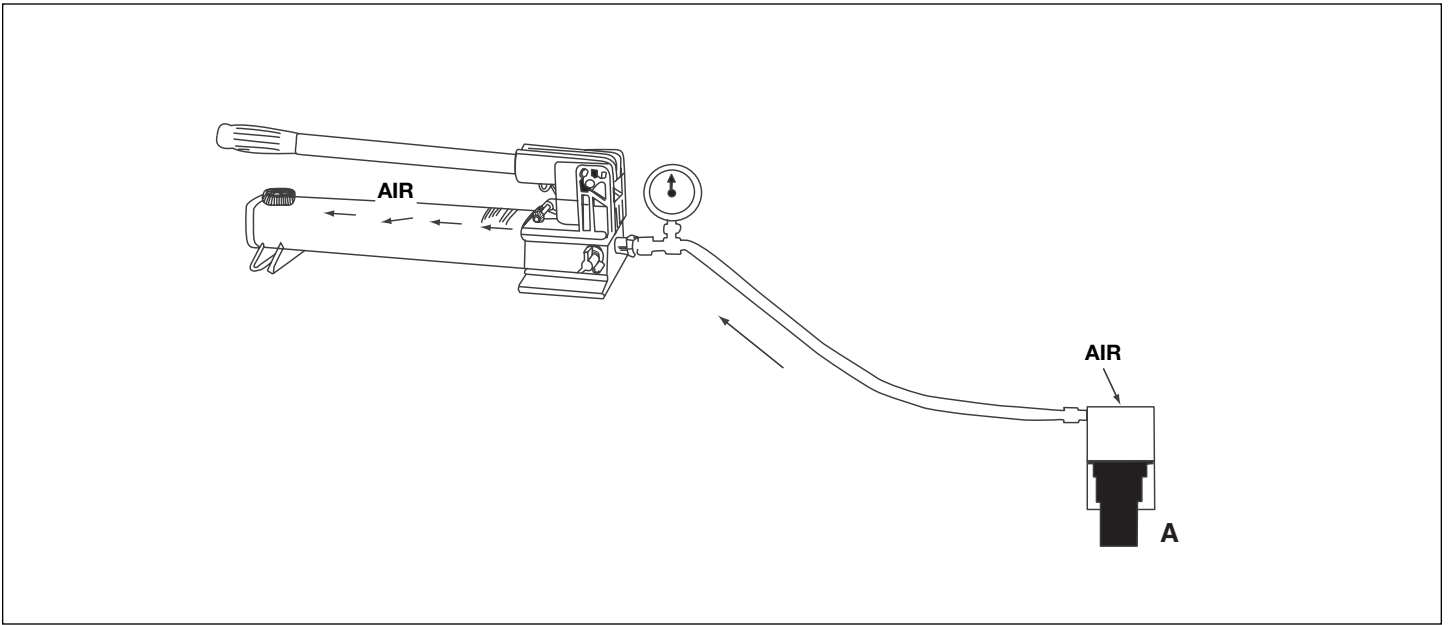

Figure 3
3. Position cylinder with the plunger end down (up if using pull cylinder). See Figure 3.